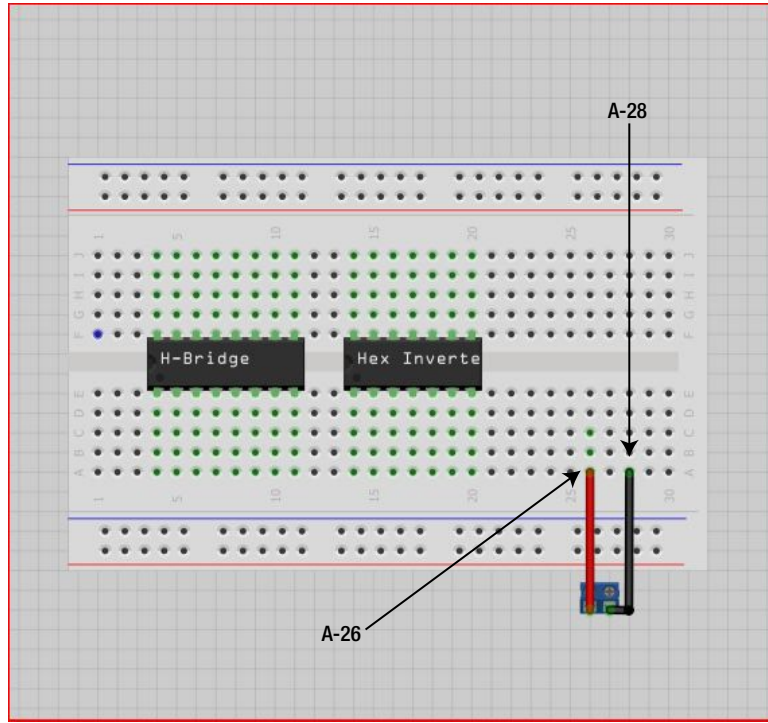

Figure 31-9. Attach the two-position terminal block to the breadboard
9. Attach the two-position terminal block to the breadboard (at A-26 and A-28). Figure 31-9 illustrates this process.